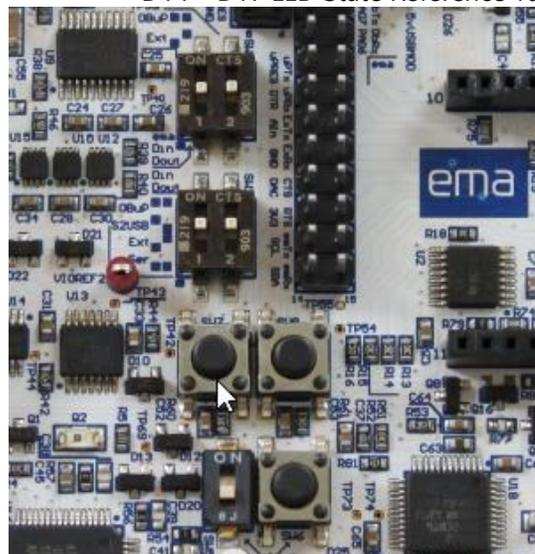

Figure 7
2. Press and hold button SW7 (shown in *Figure 7*) for about 2 seconds or until the LED signal array changes to D14 blinking. The following conditions can be observed and validate that ema is connected and communicating on the cellular network. Allow up to 30 seconds for these conditions to occur.